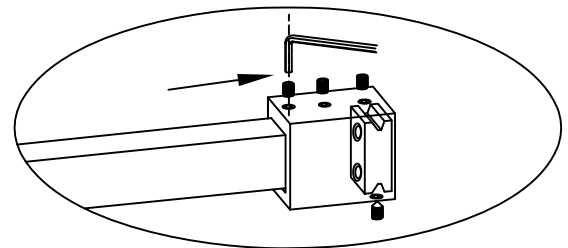

Fig. 21
21. Slide the Rail End (5) over the Wall Mount (6) and secure using the set screws. See Fig. 21 for details.